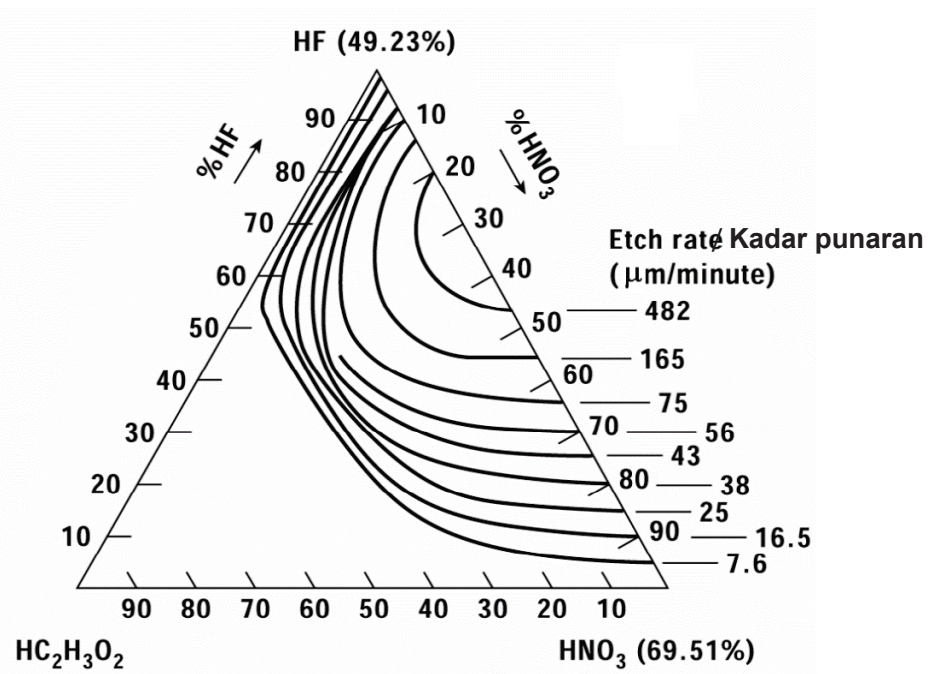

Figure 1: Schematic diagram of the etch rate for silicon in HF and HNO₃ at room temperature
- (c). An etching solution containing mixture of 15% of HNO_3 , 80% of HF and 85% of $\text{HC}_2\text{H}_3\text{O}_2$ is used to etch silicon. Refer to Figure 1, estimate the etch rate for this solution at room temperature and also discuss the surface topography of the etched silicon surface.